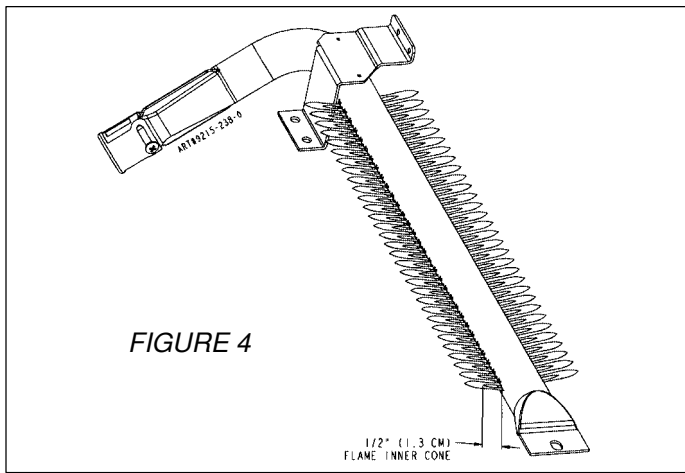

FIGURE 4
- a. The approximate length of the flame of oven burner is a 1/2 inch distinct inner blue flame, figure 4.